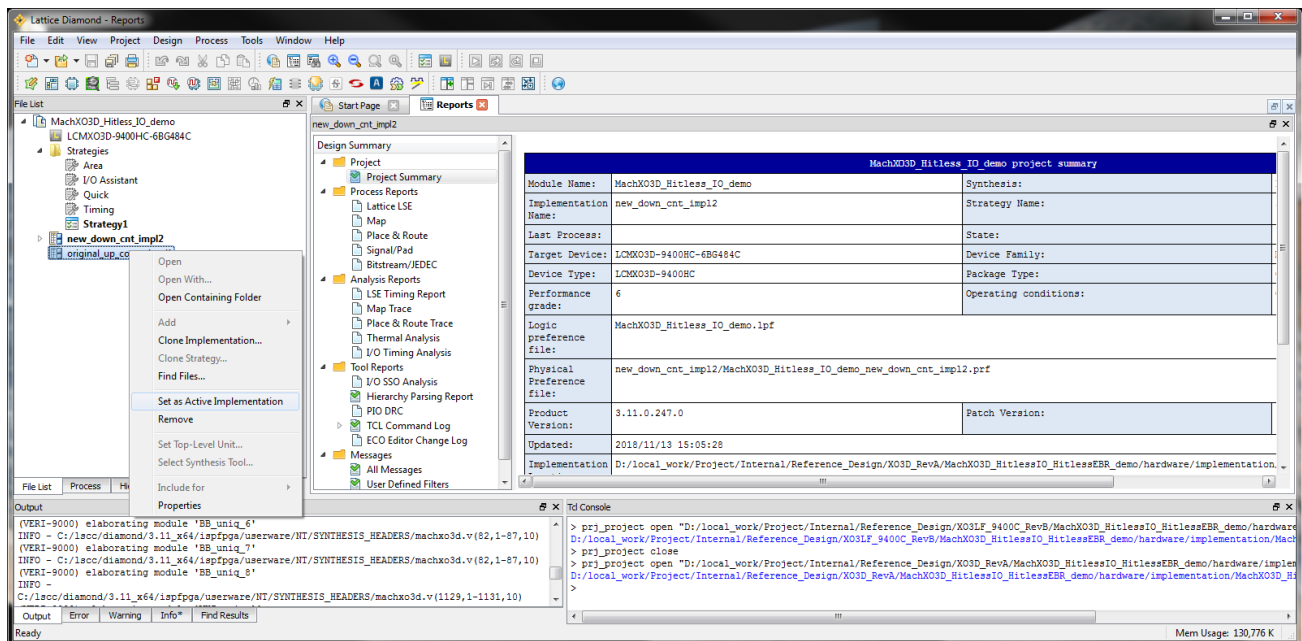

Figure 7.2. Setting original_up_count_impl1 Active
2. There are two implementations in this project: **original_up_count_impl1** and **new_down_cnt_impl2**. Make sure to set the **original_up_count_impl1** implementation active (Figure 7.2).